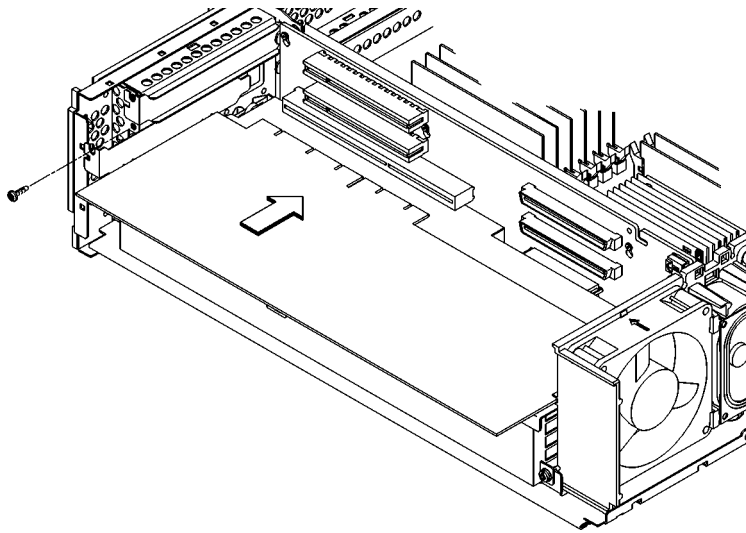

Figure 54
- 3 Slide the board into the slot, as shown in Figure 54.
- 5 Use the blank plate retaining screw to secure the option board, as shown in Figure 54.